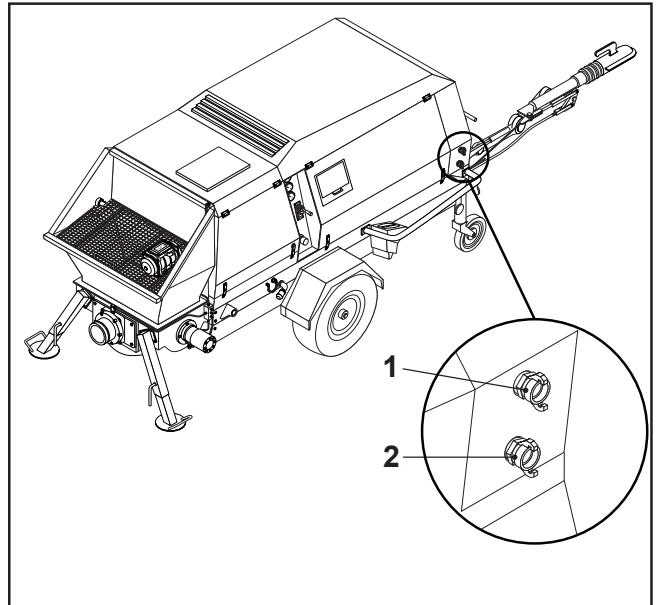

FIG. 24
- Connect the accelerator delivery hose to the upper quick-release coupling (FIG. 24-REF. 1) on the side of the machine; connect the other end of the hose to the tank containing the accelerator.
- Make sure the accelerator drawing point is at least 50 cm above the coupling (FIG. 24-REF. 2).
- Connect the accelerator delivery hose to the quick-release coupling (FIG. 24-REF. 2) to the nozzle coupling (FIG. 25-REF. 1).